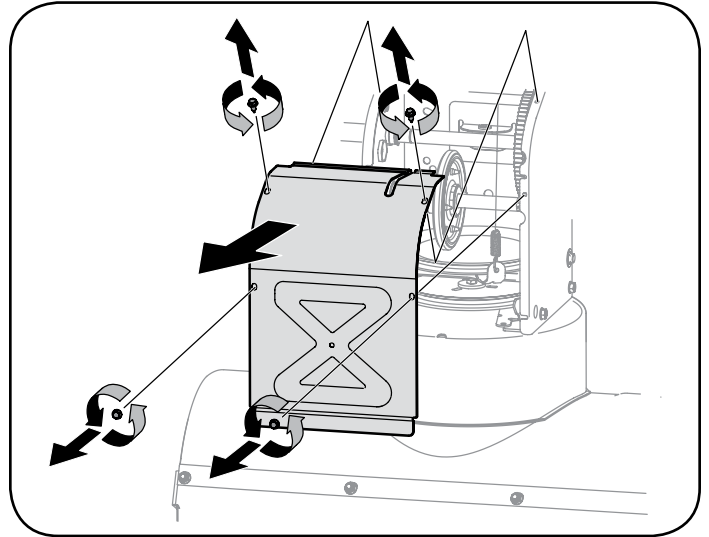

Figure 56
5. Remove the frame cover from the underside of the snow blower by removing four self-tapping screws which secure it. See Figure 56.